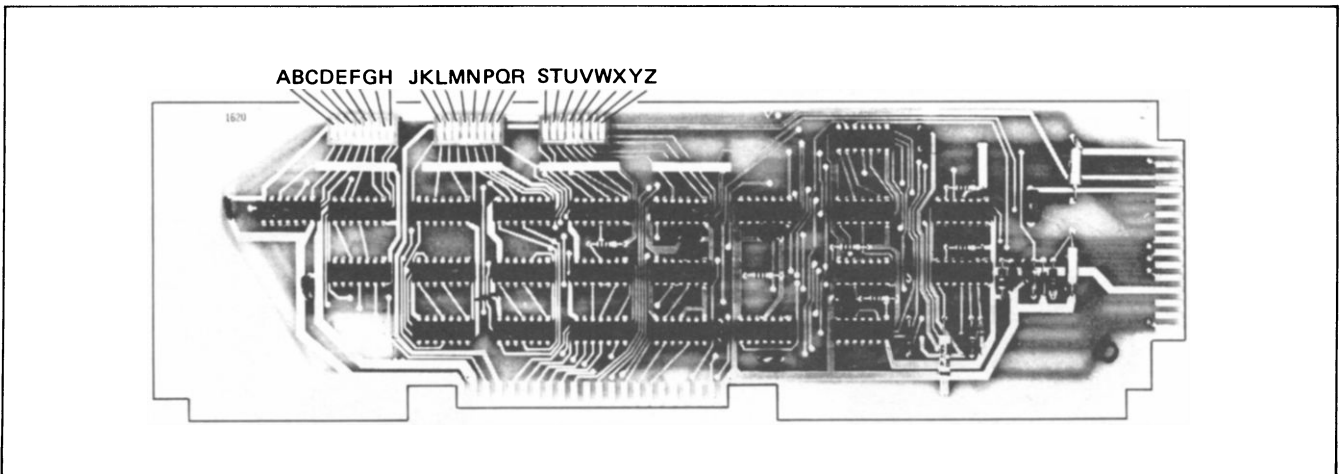

Figure 7-14. Keyboard Interface PCA Strapping Options
3. () Using figure 7-14 or 7-15 (as applicable) and table 7-3 or 7-4 (as applicable), select the desired operating functions, and set the switches to the appropriate positions. (More information on configuration is given in section V.)